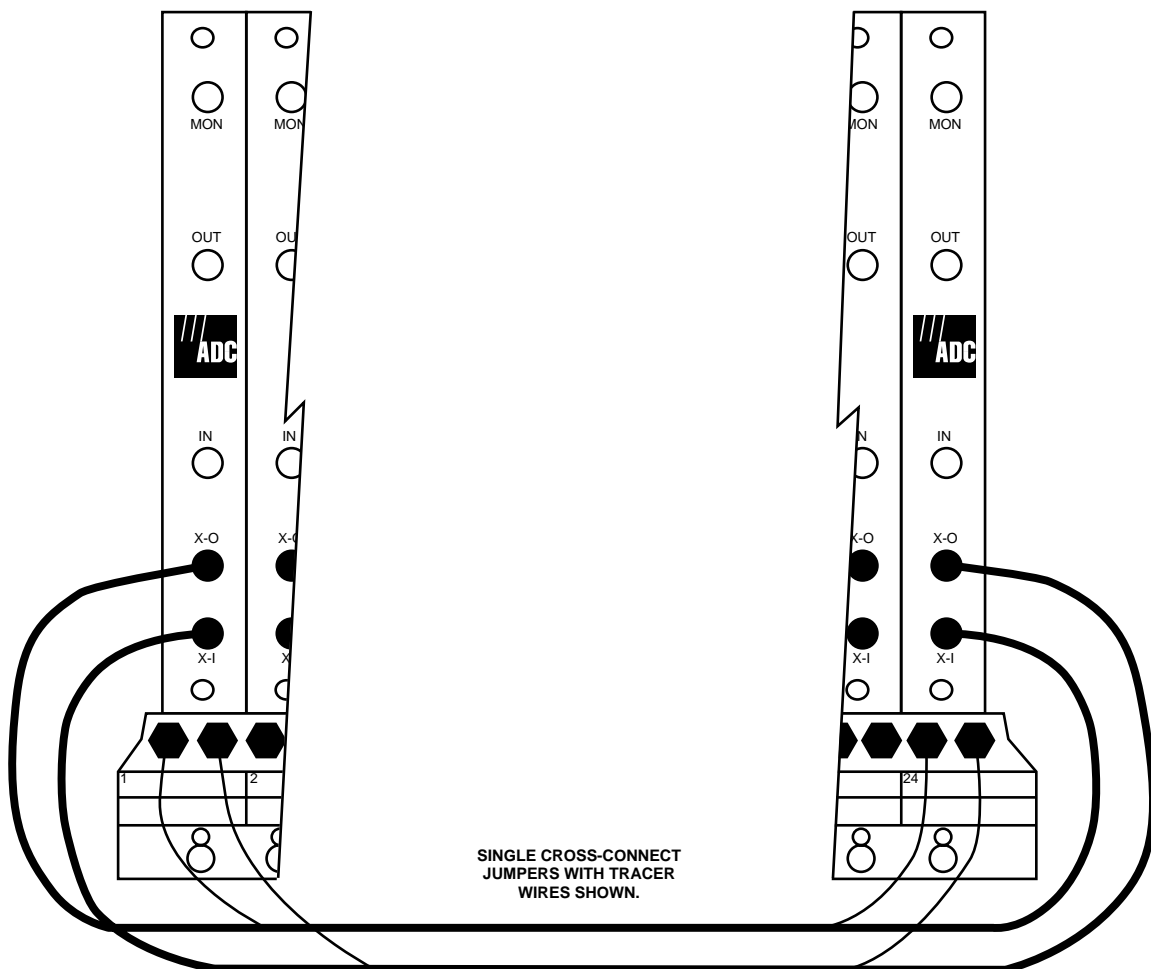

Figure 10. DSX-4B-24 Cross Connections
4.14 Using 735A type jumpers and accompanying messenger wires, cross-connect all necessary DSX-4B-24 circuits as shown in **Figure 10**.